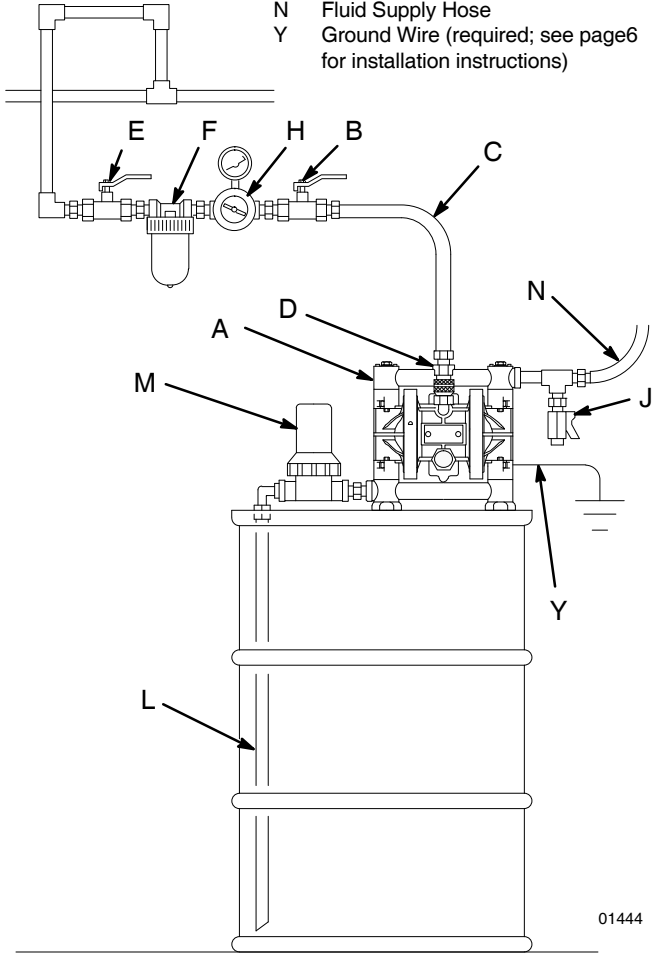
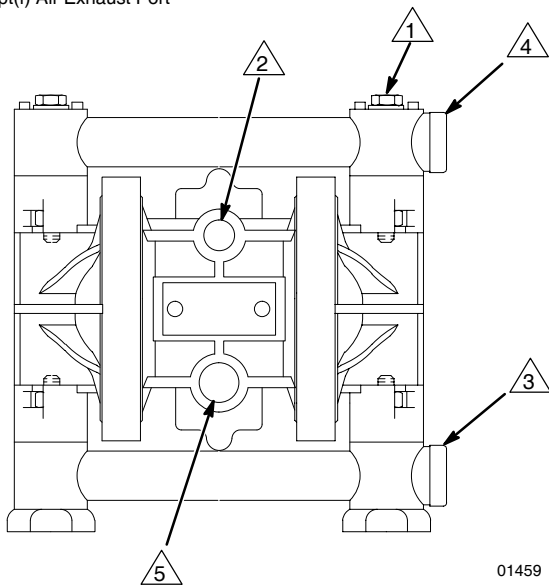

Fig. 2
Fig. 4
1. The Typical Installations in Figs. 2–3 are only guides for selecting and installing system components. Contact your VERDER Customer Service for assistance in planning a system to suit your needs.
2. The **VERDERAIR VA 10** Pump can be used in a variety of installations, some of which are shown in Figs. 4–3. Kits are available to adapt your pump to your system. Refer to the Product Data Sheets.
When pumping conductive flammable fluids, **always** ground the fluid system by making sure the fluid has an electrical path to a true earth ground. See Fig. 2 and 3.
A bleed-type master air valve (B) is required in your system to relieve air trapped between this valve and the pump. See Figs. 2–3. Trapped air can cause the pump to cycle unexpectedly, which could result in serious injury, including splashing in the eyes or on the skin, injury from moving parts, or contamination from hazardous fluids.
1. Install the air line accessories as shown in Figs. 2–3. Mount these accessories on the wall or on a bracket. Be sure the air line supplying the accessories is grounded.
- a. The fluid pressure can be controlled. To control it on the air side, install an air regulator (H).
- b. Locate one bleed-type master air valve (B) close to the pump and use it to relieve trapped air. See the **Warning** above. Locate the other master air valve (E) upstream from all air line accessories and use it to isolate them during cleaning and repair.
- c. The air line filter (F) removes harmful dirt and moisture from the compressed air supply.
2. Install an electrically conductive, flexible air hose (C) between the accessories and the 1/4 npt(f) pump air inlet (see Fig. 4). Use a minimum 6.3 mm ID air hose. Screw an air line quick disconnect coupler (D) onto the end of the air hose (C), and screw the mating fitting into the pump air inlet snugly. Do not connect the coupler (D) to the fitting yet.
1. If using a conductive (Acetal) pump, use conductive hoses. If using a non-conductive pump, ground the fluid system. See **Grounding** on page 6. The pump fluid inlet is 3/8 bspt. See Fig. 4. Screw the fluid fitting into the pump inlet snugly.
A fluid drain valve (J) is required in your system to relieve pressure in the hose if it is plugged. See Figs. 2–3. The drain valve reduces the risk of serious injury, including splashing in the eyes or on the skin, or contamination from hazardous fluids when relieving pressure. Install the valve close to the pump fluid outlet.
1. Use electrically conductive fluid hoses (N). Depending on your model, the pump fluid outlet is 3/8 bspt or 3/8 npt(f). See Fig. 4. Screw the fluid fitting into the pump outlet snugly.
2. Install a fluid drain valve (J) near the fluid outlet. See the **Warning** above.
The pump is shipped with the fluid inlet and outlet ports facing the same direction. See Fig. 4. If desired, the direction of one or both ports can be changed. Remove the manifold(s) from the pump as explained in steps 1–2 and 4 on page 18. Reattach with the port facing the desired direction. See **Torque Sequence**, page 27. **Do not over-torque.**